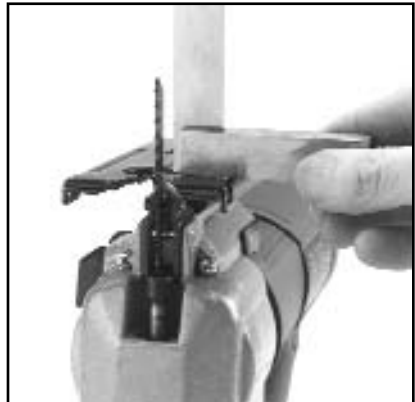

**Fig 3.** Inserting blade into plunger.
**See Figure 3.** Twist the blade 90° so the teeth are now pointing forward, then pull it down slightly. Make certain the blade is positioned in the groove of the roller which backs up the blade.